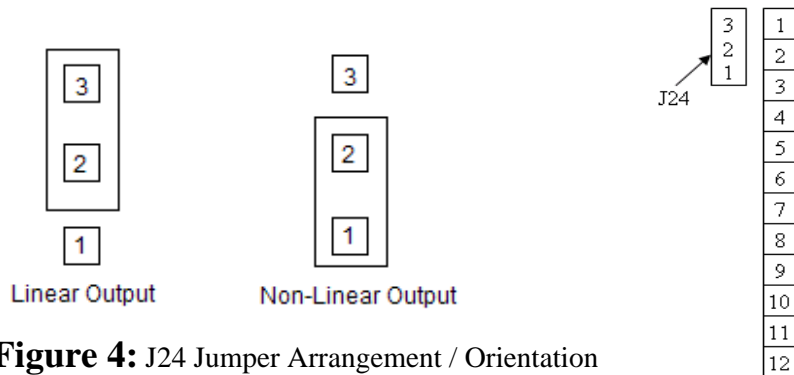

Figure 4: J24 Jumper Arrangement / Orientation
The Digital CVT will be set for linear or non-linear analog output at the factory. The customer may change the Digital CVT unit from its current linear or non-linear configuration by rearranging the jumper settings of J24, located internally next to Pins 1 & 2 of the Terminal Block, to match Figure 4 for the desired analog output.
2. Ensure pins 2 & 3 of the analog output jumper J24 are as shown in Figure 4 located in section 3.6 for Linear Output.